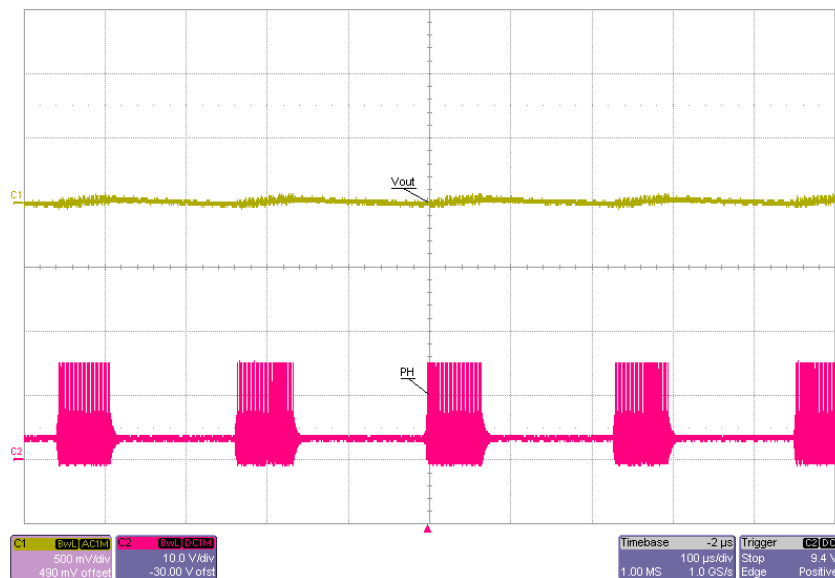

Figure 2-11. TPS54231EVM-372 Eco-mode Operation
Figure 2-11 shows Eco-mode operation, channel 1(C1) shows the output voltage while channel 2(C2) shows the switching node (PH).